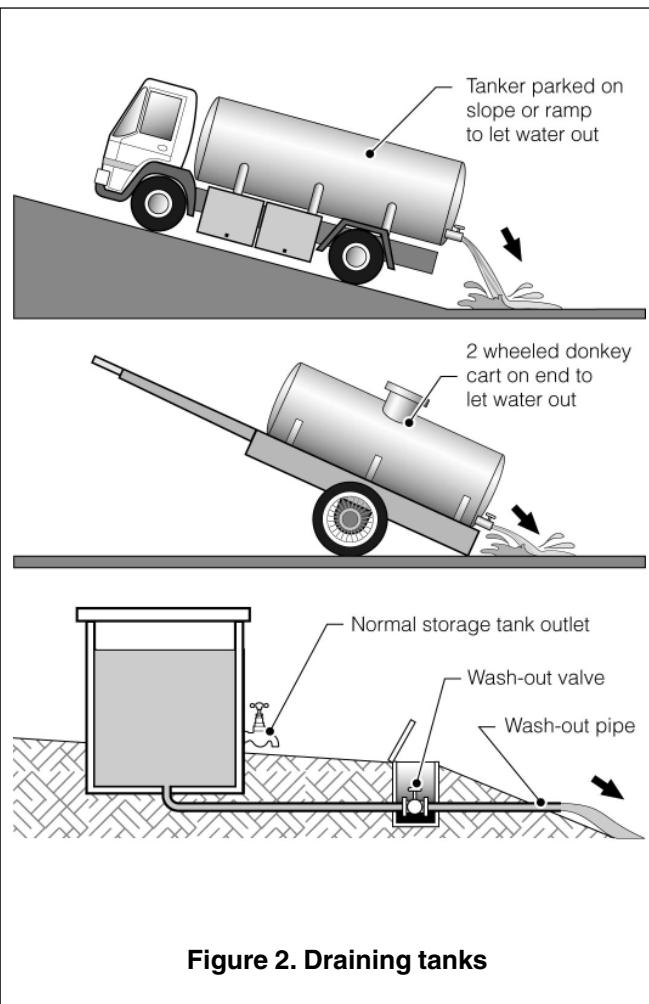

Figure 2. Draining tanks
- 1. Drain/empty the tank.** Open the outlet valve/tap and drain out any remaining liquid. Collect the liquids so that they can be safely disposed of. Most tankers have their outlet valve at the back, so park it on a slope so that all the liquids can be discharged (Figure 2).